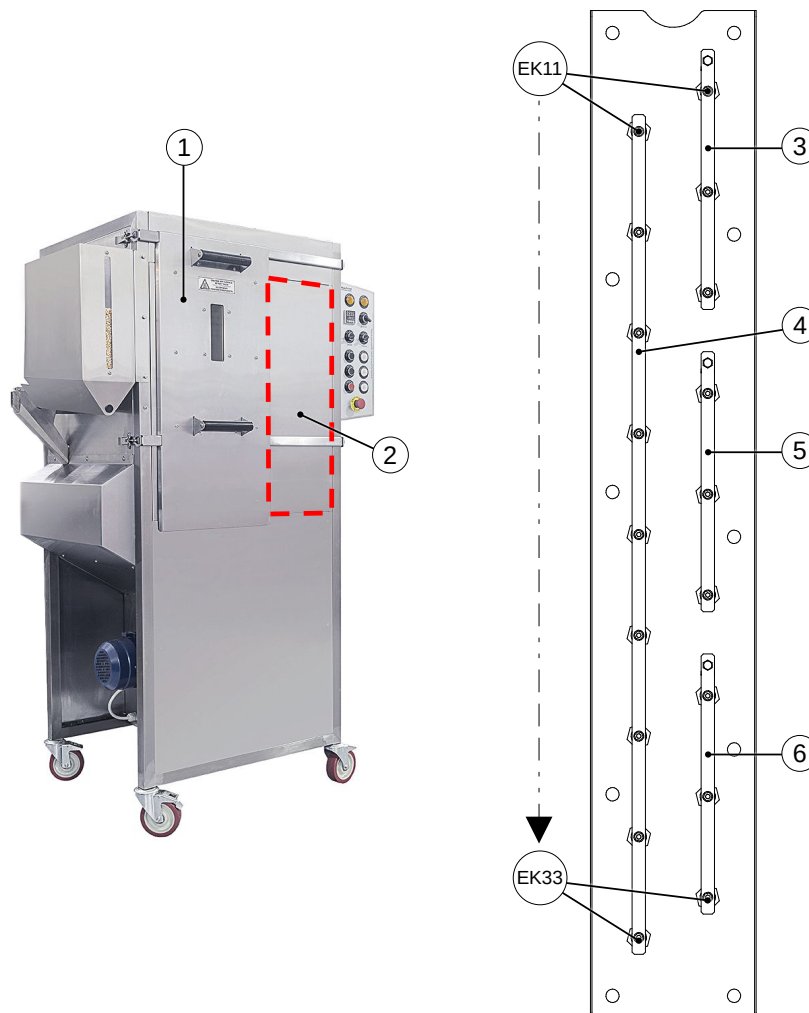

Figure 9: Heating elements panel
3. Take off the door (1), see Fig.9. Remove panel (2), remove thermal insulation mats that cover busbars and heater terminals.
5. Remove busbars (3), (4), (5), (6).
8. Mount busbars (3), (4), (5), (6) back in place. Use conductive anti-seize paste on bolted joints between terminal studs of the heaters and the busbars.